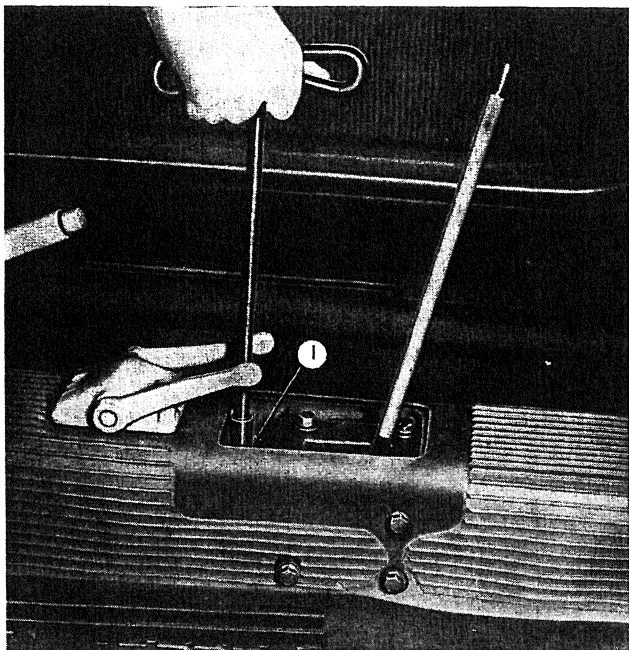

Fig. 250 - Removal of gearshift control assembly.
- Take off brass lock wire and undo the set screw fixing the gearshift control rod to inner lever (fig. 250).